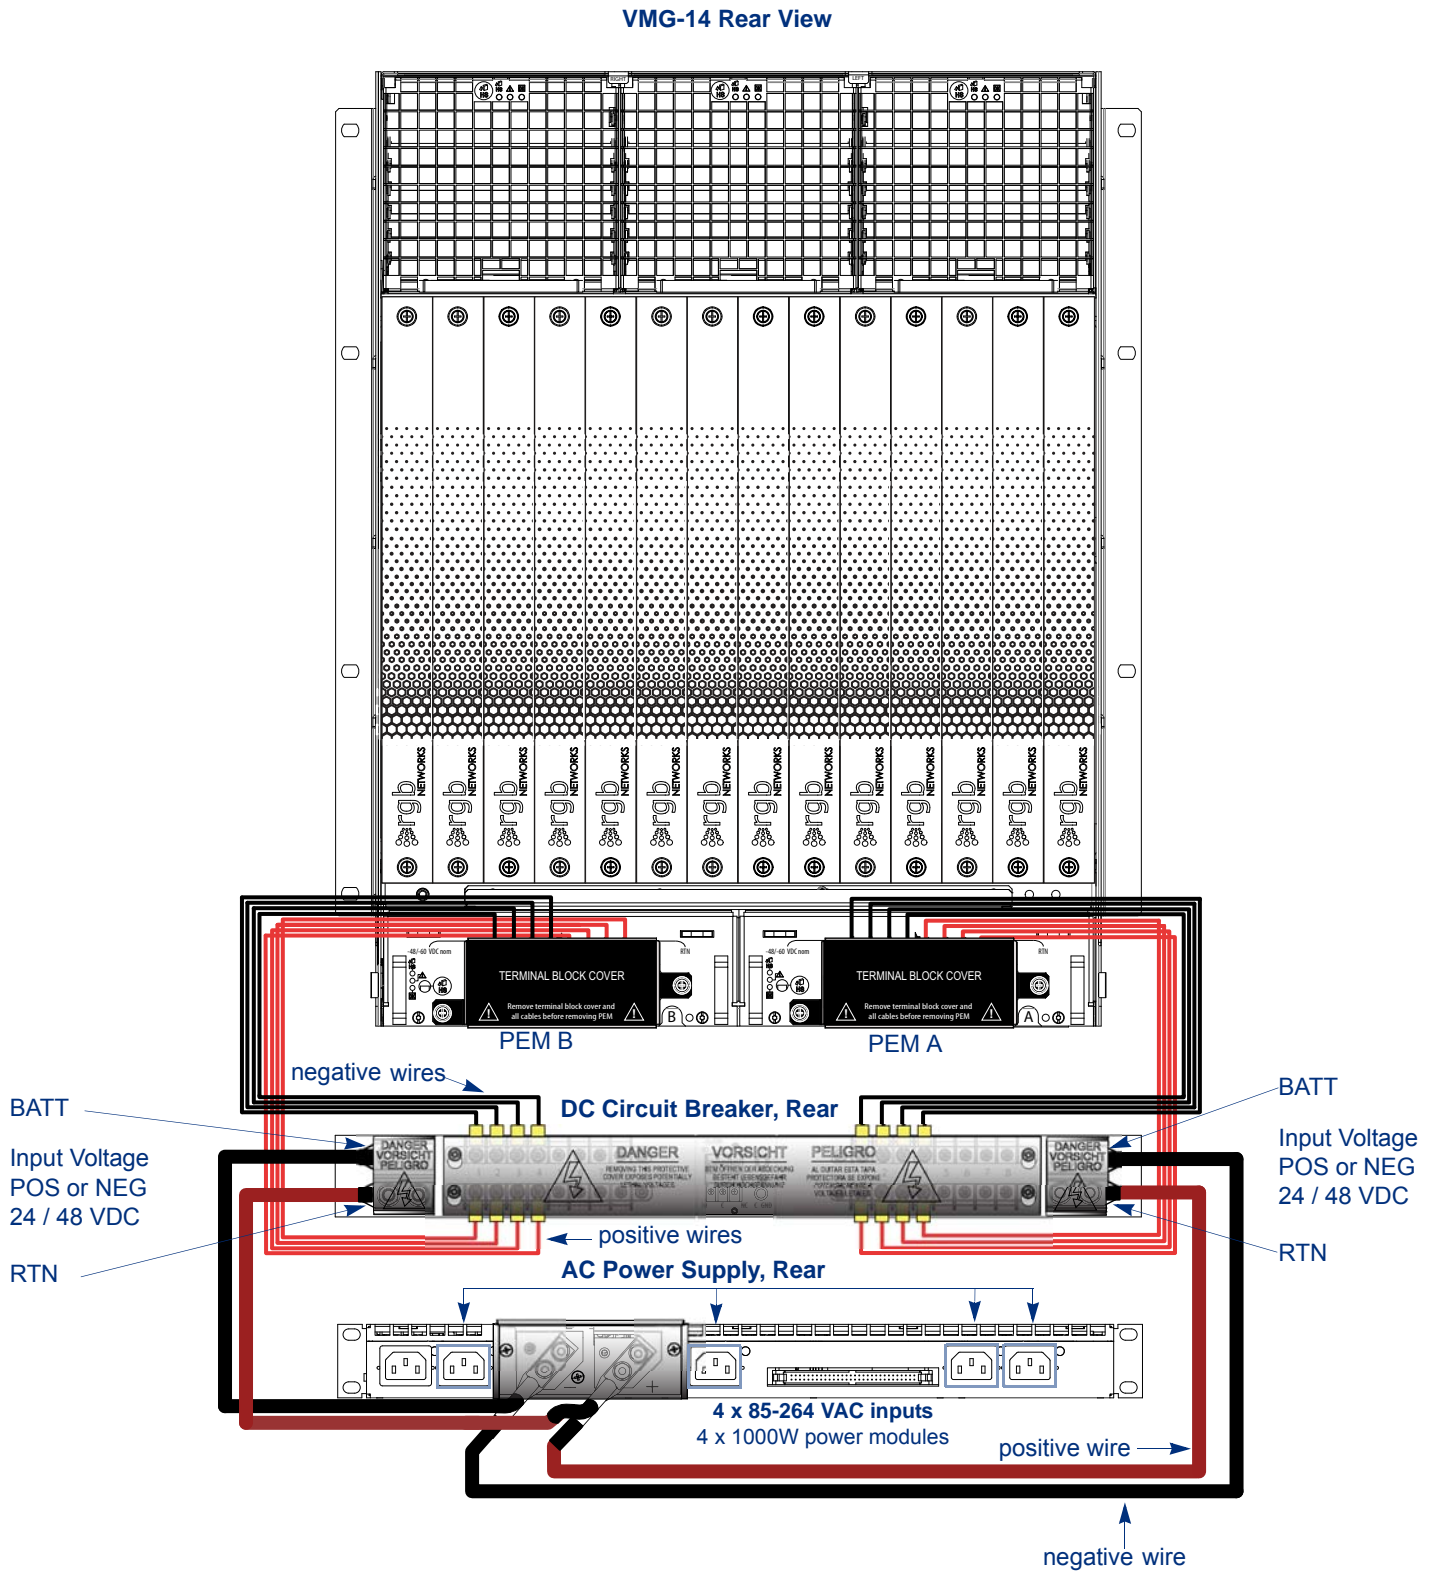

Figure 1. VMG-14 with AC Power Supply - PEM Redundancy
1. Power Entry Module (PEM) redundancy with one AC power supply chassis and one circuit breaker (Figure 1).
Figure 1 shows a diagram of the PEM redundancy solution.